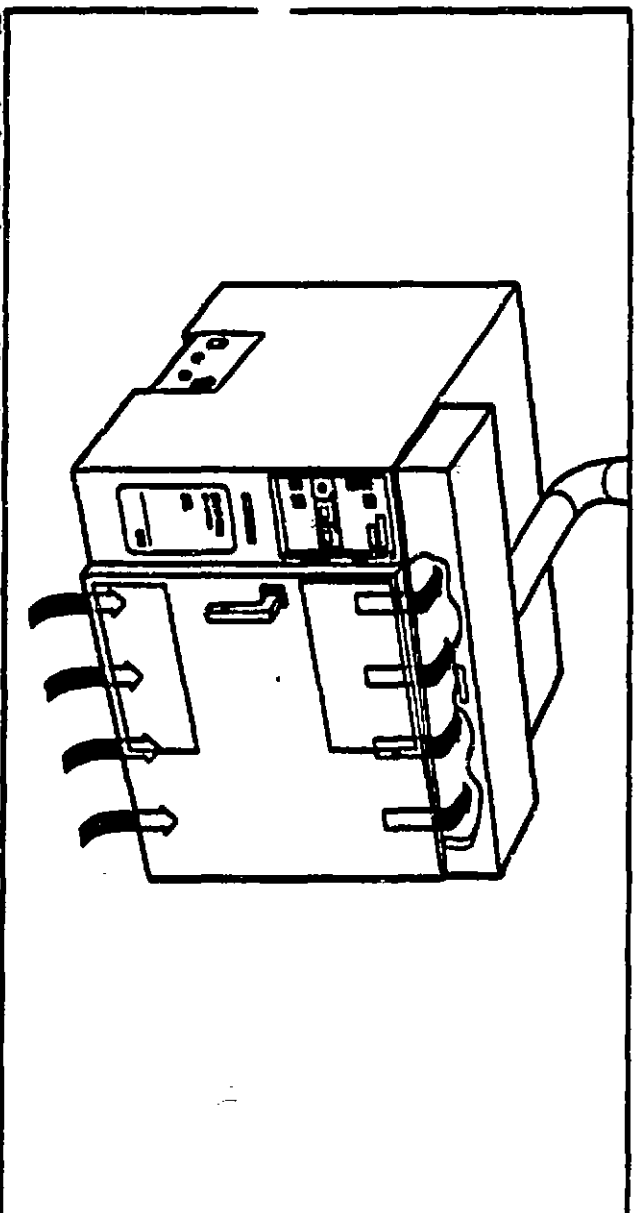

Figure 4. Local exhaust hood function.
An optional local exhaust hood can be added to the top panel of the sterilizer. Its purpose is to allow faster access after the sterilization cycle is completed. The hood removes residual ethylene oxide gas (EO) from the sterilizer chamber when the door is in the latched position. The hood must be connected to a dedicated exhaust system supplied by the customer. At the end of the sterilization cycle, the operator opens the sterilizer door to a latched position. While in this position, air is drawn upward from the bottom of the sterilizer door through the hood to the outside or to an emission control system via the exhaust duct. The air stream pulls EO molecules from the front of the sterilizer chamber. Refer to Figure 4.